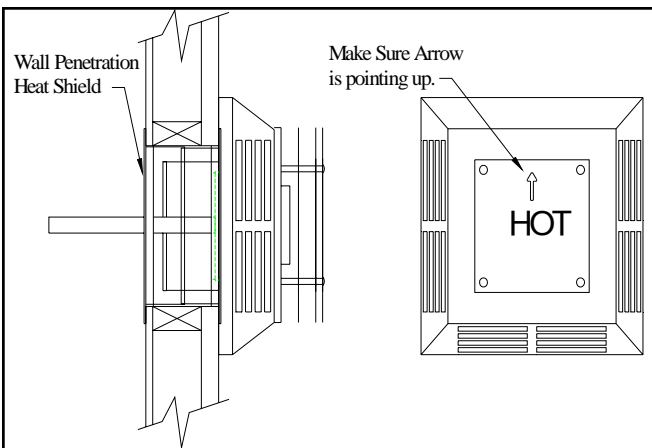
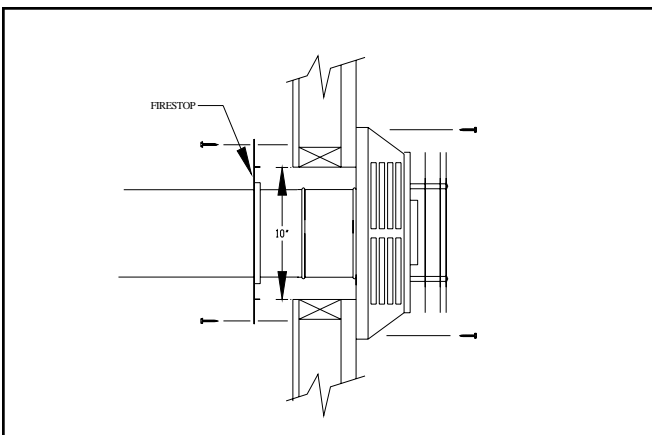

Fig. 13– Termination Orientation
Fig.14– Anchoring Termination to Wall
5. Carefully slide the vent termination over the vent pipe from the outside and flush it up against the exterior wall. Level the termination cap for appearance sake, making sure the arrow is pointing upward on the termination cap (see fig. 13). Carefully fasten the termination cap to the exterior wall (see fig. 14) using the screws provided in the termination box. You may seal around the termination cap with a quality silicone for insulation purposes.